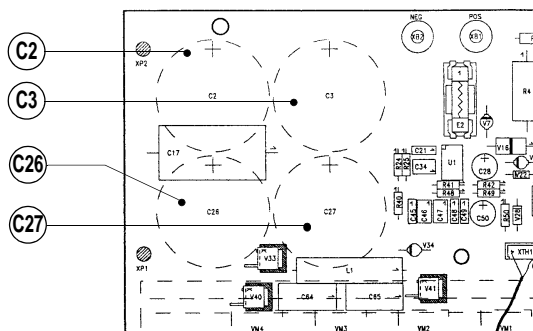

FIG. 2 - C.E. RIF. 1 MOD. CE22542
- the state of the levelling condensers (fig. 2): check if there are swellings or breaks on the container